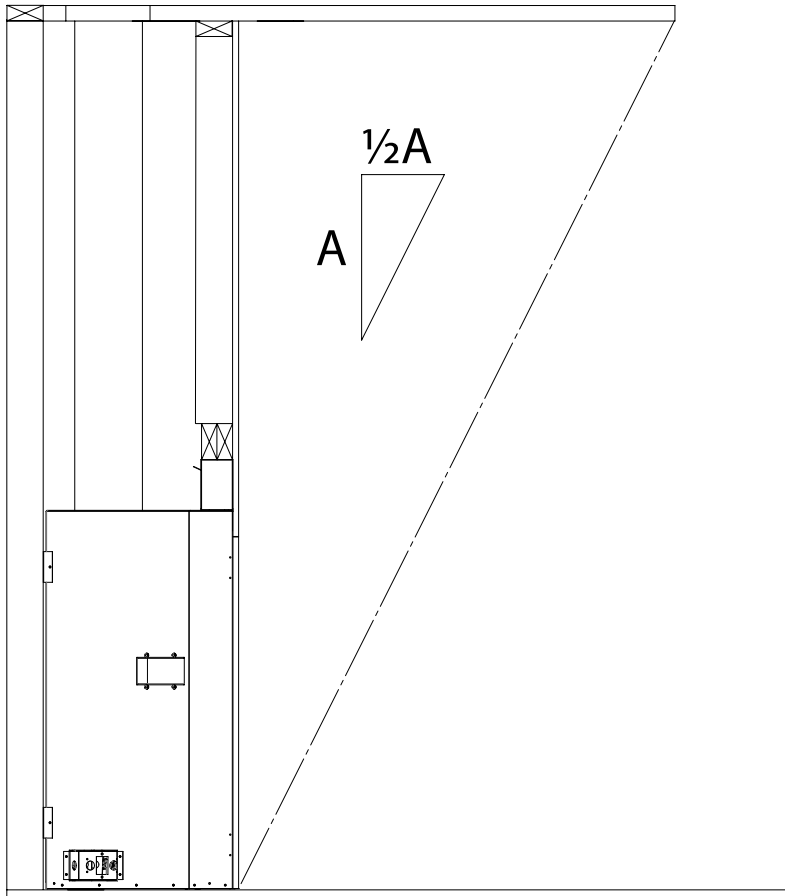

Figure 47: Overhang Depth Requirements
- The fireplace must be protected by an overhang with a depth that is at least equal to half of its height from the base of the fireplace, as shown in Figure 47.